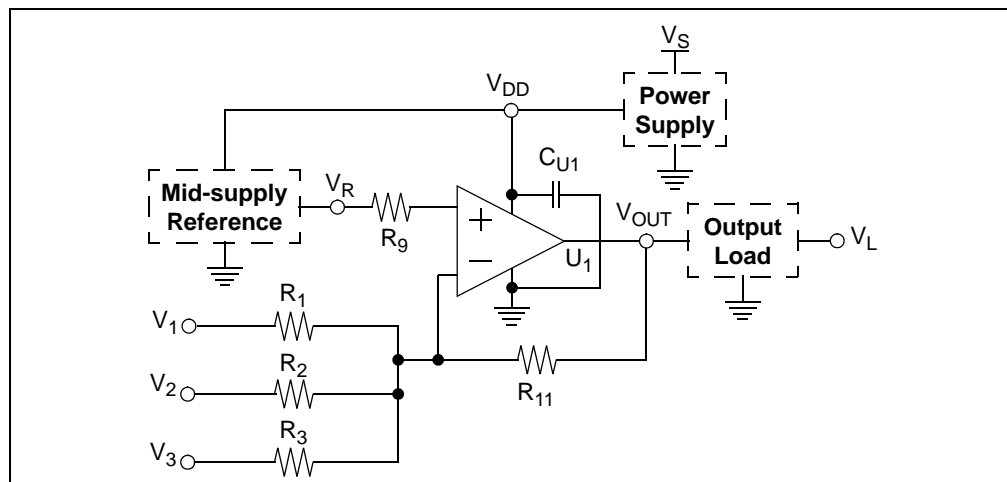

FIGURE 2-6: Inverting Summing Amplifier Circuit Diagram.
- The Mindi™ Amplifier Designer gives design recommendations for circuits with up to 8 inputs; see the circuit diagram shown in Figure 2-6.